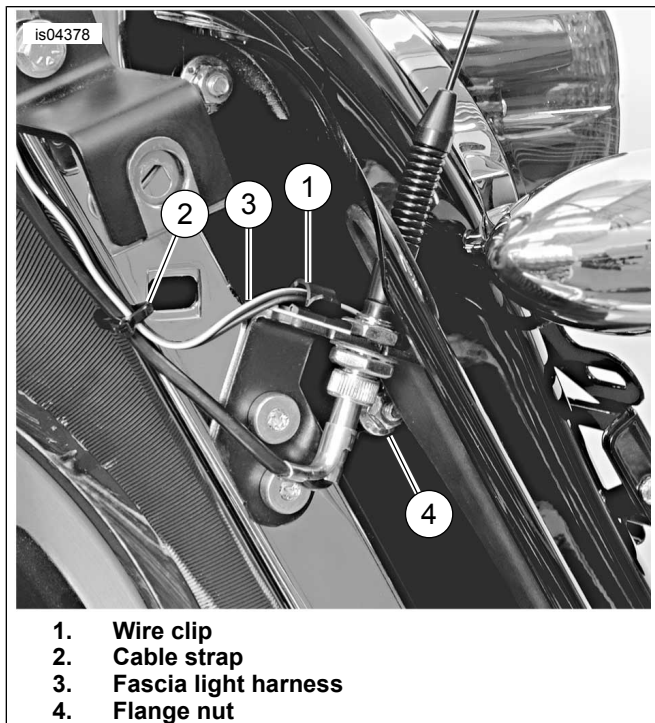

Figure 2. Rear Fascia Light Harness
- See Figure 2. Release the rear fascia light wires from the wire clip (1). Cut the cable straps (2) to release the rear fascia light harness (3) and radio antenna cable.